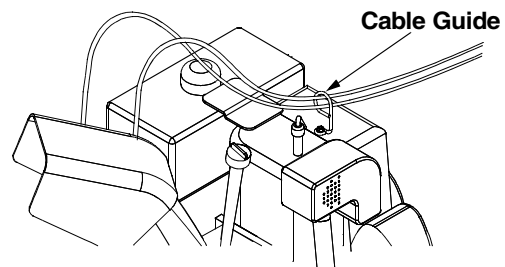

Figure 4
- If not already attached, slip the cables that run from the handle panel to the chute into the cable guide on top of the engine. See Figure 4.